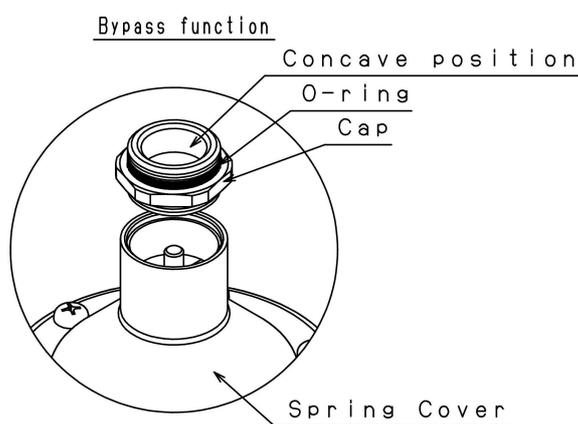

Fig.1.
- (2) If perform pneumatic inspection with the concave position upward (Fig.1), do not sprinkle forming liquid to the O-ring (18).
- (1) Be sure to check that there is no internal pressure in the piping before water pressure inspection. If internal pressure remains inside, remove it.
- (2) Remove the cap and turn it out (make concave portion upward), and screw it firmly onto the spring cover. (Fig.1)